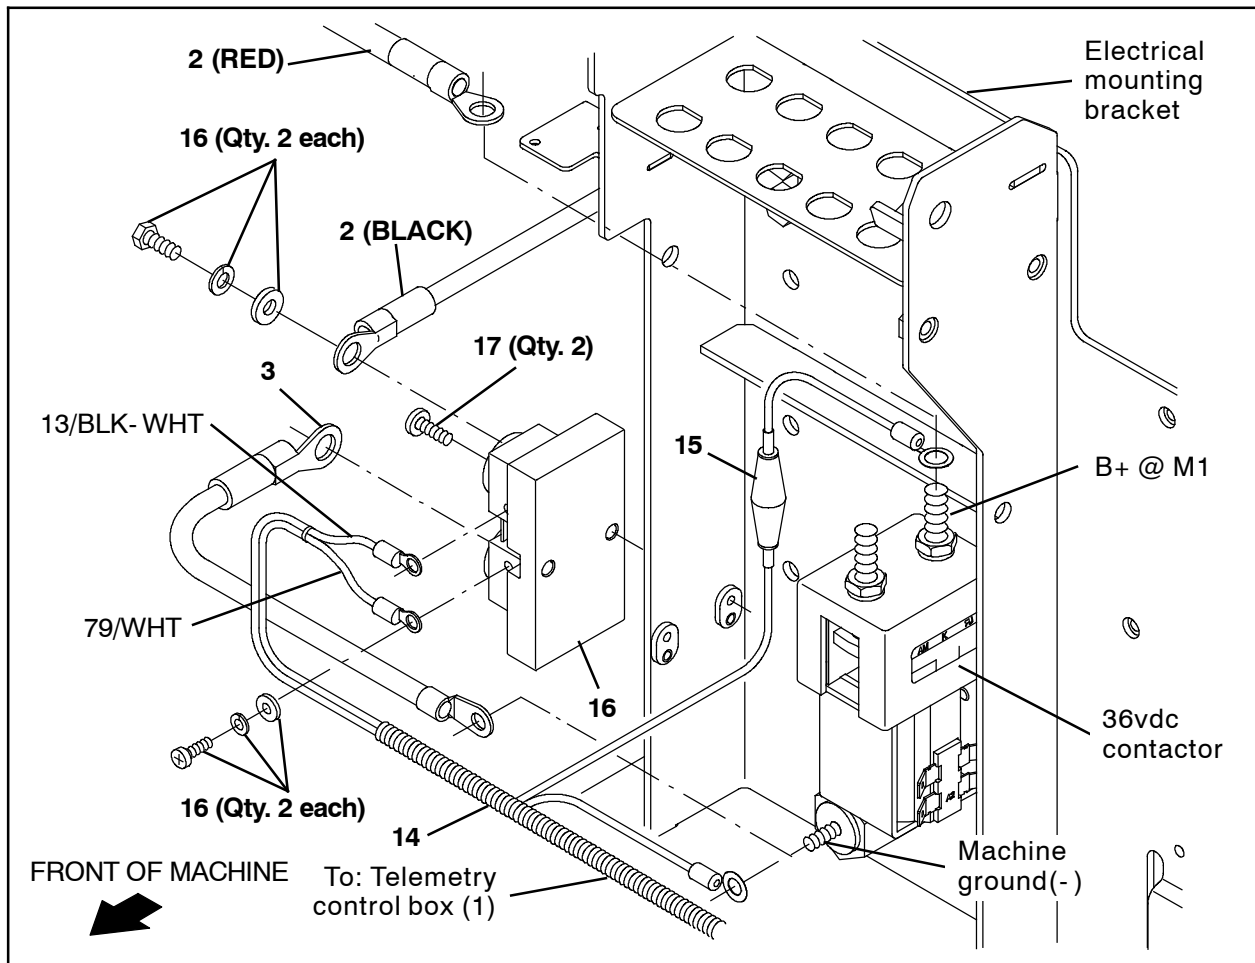

FIG. 3
2. Use two M4 pan screws (17) to install the shunt (16) onto the electrical mounting bracket. (Fig. 3)
3. Connect the black cable (3) to the shunt (16). (Fig. 3)
4. Connect the black cable (3) to the 36vdc contactor / machine ground (-). (Fig. 3)
6. Connect the battery cable assembly (2) black cable to the shunt (16) (Fig. 3)
7. Connect the telemetry harness (14) 13/BLK-WHT wire to the side of the shunt (16) with the black cable (2). (Fig. 3 / Fig. 5)
8. Connect the telemetry harness (14) 79/WHT wire to the side of the shunt (16) with the black cable (3). (Fig. 3 / Fig. 5)
9. Connect the telemetry harness (14) and the battery cable assembly (2) red cable to the 36 VDC contactor B+ at M1 terminal. (Fig. 3 / Fig. 5)